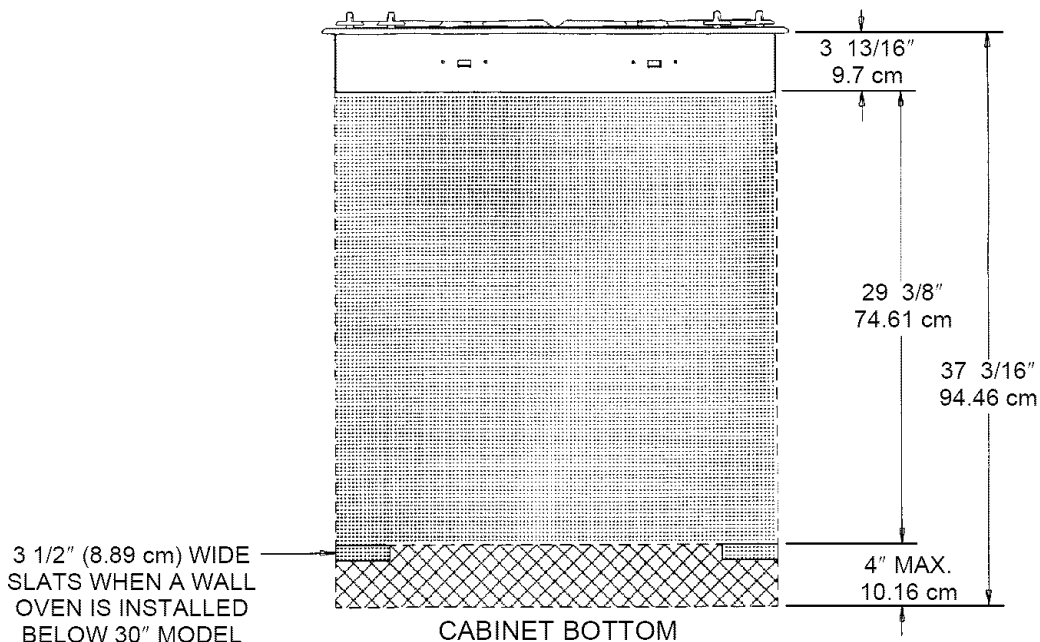

FIGURE 6
NOTE 1: This appliance and its gas and electrical supply sources must be installed before the wall oven is installed. See illustration (Electrical Wiring Information - page 7; figure 6) for recommended electrical supply source locations.
This appliance is equipped with a grounded type power cord. A grounded outlet must be provided. It is recommended, for convenience, the outlet be located (with reference to figure 6) as in A or B.
- A. If no other appliance is to be installed below this appliance: within either the shaded area or the cross hatched area shown in figure 6.
1. within the cross hatched area of figure 6, or,
If a wall oven is to be installed below this appliance and the counter units outlet is to be mounted within the cross hatched area of figure 6: